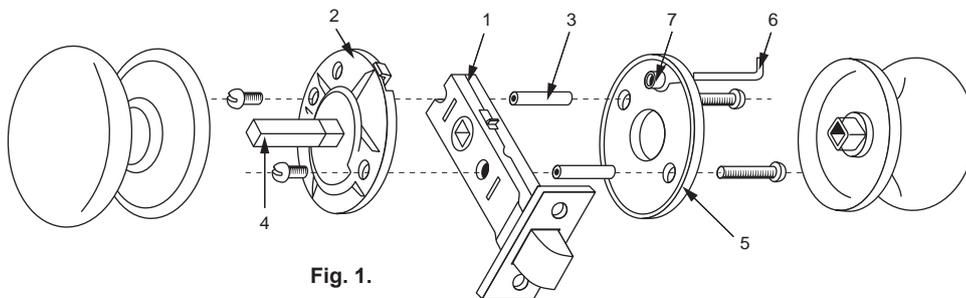
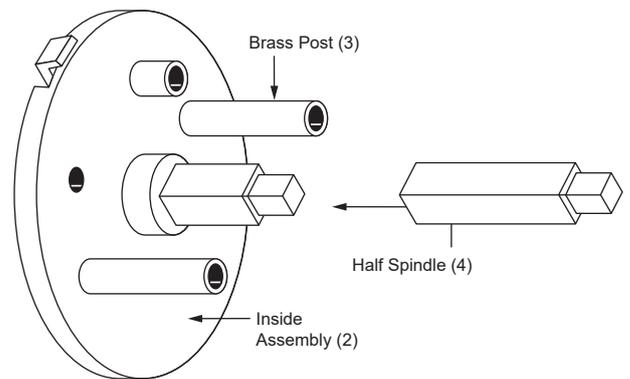

Fig. 1.
Fig. 2.
**Note: All numbers in brackets ( ) denote an item on figure 1.**
1. For older doors (B) drill an additional 8mm hole, shown as a broken circle, from 'inside' door face (snib side), after which installation is identical for A. and B. doors.
2. Fit Gainsborough 'dual sprung tubular latch' (1)
3. Insert two short screws through the 'inside assembly' (2) and firmly attach 'brass posts' (3).
4. Locate special half spindle (4) into square hole in 'inside assembly' (2) and insert 'posts' (3) and 'spindle' (4) through latch until assembly makes firm contact with door face. See fig. 2.
8. Insert 'L' shaped 'Emergency Release Bar' (6) into 'outside assembly emergency release bar hole' (See fig. 1.)